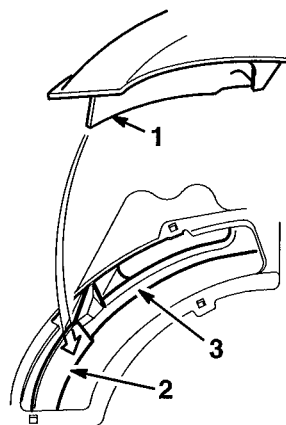

Figure 40
2. Place front corner of mulch plate baffle into deck opening. Rotate mulch plate counterclockwise and push down into deck opening (Fig. 40).